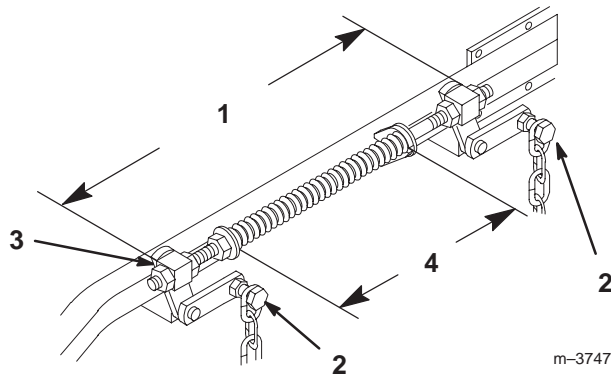

Figure 56
6. Loosen four (4) top chain bolts in slots. Check the length of the rod/swivel assemblies. Distance from outside of rear swivel to outside of front swivel should be 19–17/32 in. (496 mm) (Fig. 56). Make sure that all four swivels move freely in holes.
2. Springs are compressed so the distance between the two large washers should be 10–1/4 in. (260 mm) (Fig. 56).
3. Adjust by turning nut in front of each spring (Fig. 56). Clockwise will shorten spring; counter-clockwise will lengthen spring.